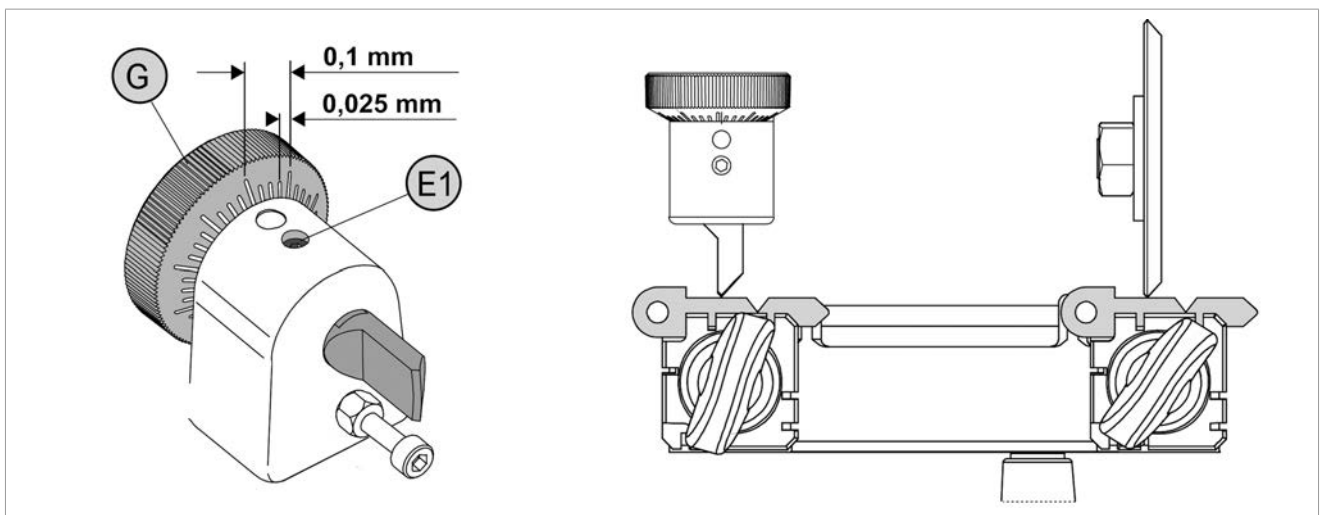

Fig. 16
- 7) Take the keys into contact with the cutting tool and tracer point (Fig. 16).
NOTE: each notch on the centesimal ring corresponds to 0,025 mm (Fig. 16).